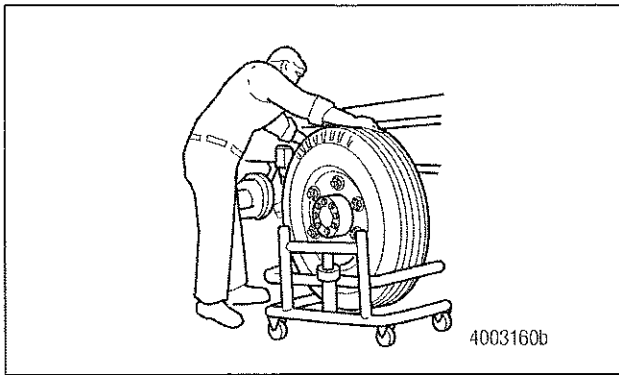

Figure 5
1. Follow the wheel manufacturer's instructions to remove the tire, wheel assembly and brake drum. Figure 5.